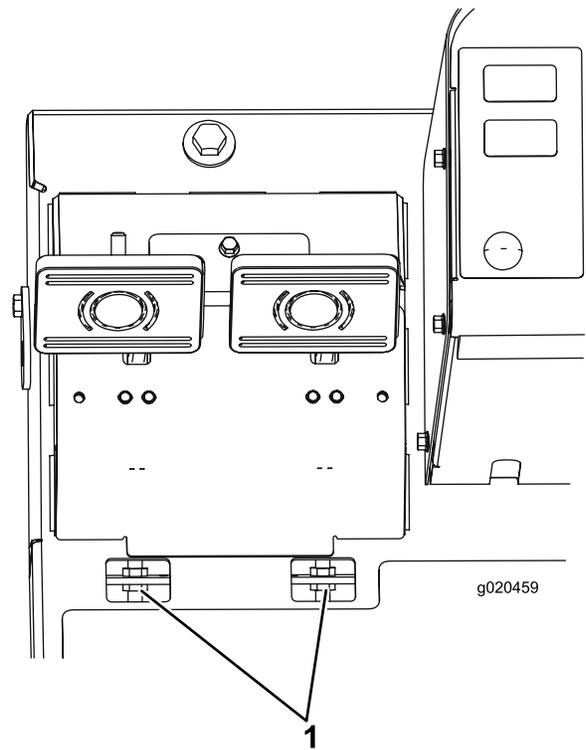

Figure 92
- B. Loosen the front nut on the threaded end of the brake cable (Figure 92).